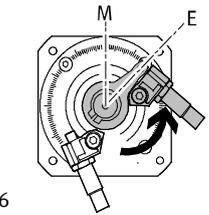

Fig. 16
- Push the shock absorber retainer including shock absorber (elastomer shock absorber or shock absorber) towards the stop lever. When doing so, the cushioning stroke must be pushed down until the sleeve of the shock absorber is against the stop level (Fig. 16).